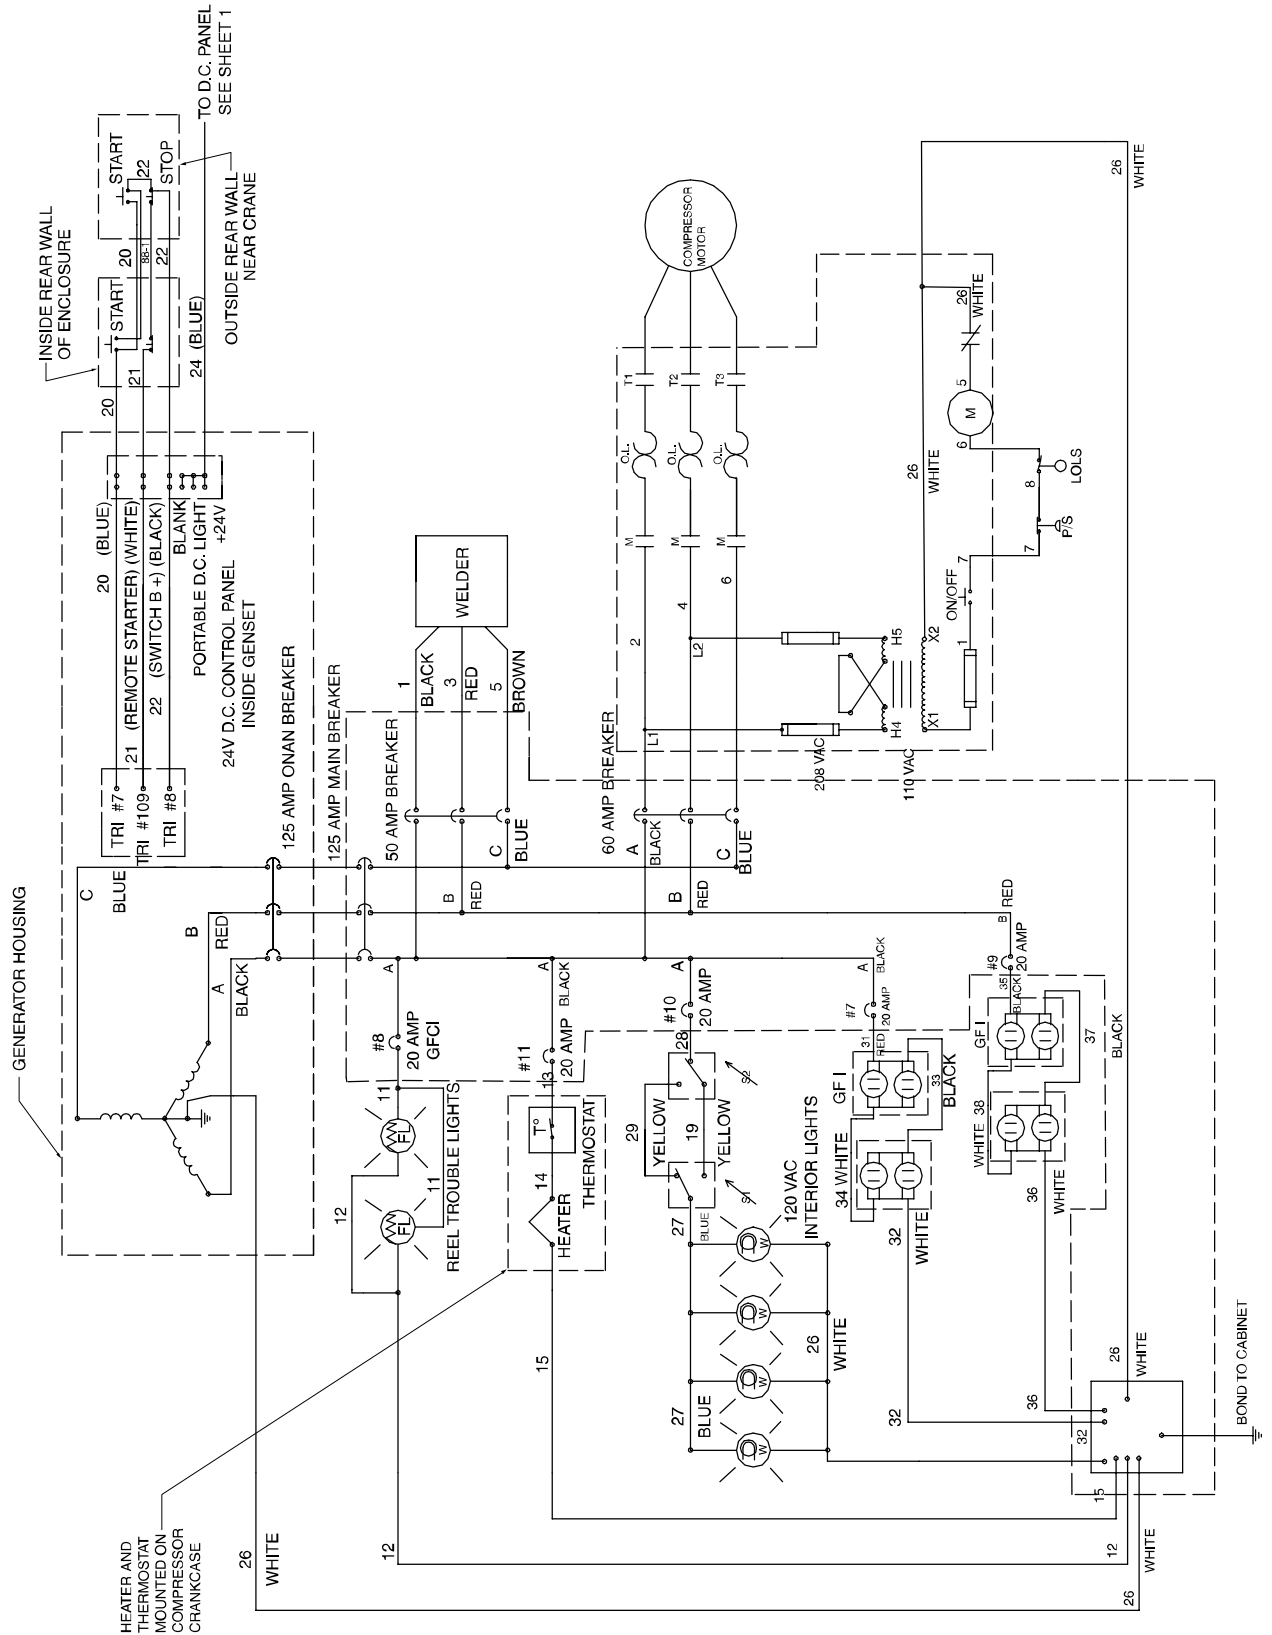

Figure 2-4. 120/208 VAC Circuit Wiring Schematic.
- Remove black wire from terminal and check for continuity on black wire from 120/208 VAC control panel box to black wire at receptacle. If no continuity is found, repair or replace black wire (see schematic Figure 2-4). If continuity is found, Notify Supervisor.
If no voltage is found, remove junction box cover and check for voltage on wires 11 and 12. If voltage is present, repair or replace wires 11 and 12 to reel light (see schematic Figure 2-4). Recheck voltage and if no voltage is found, Notify Supervisor.
If voltage is present, repair or replace wire from switch to shelter switch (see schematic Figure 2-4). If voltage is not present, replace switch (Para 3-8).